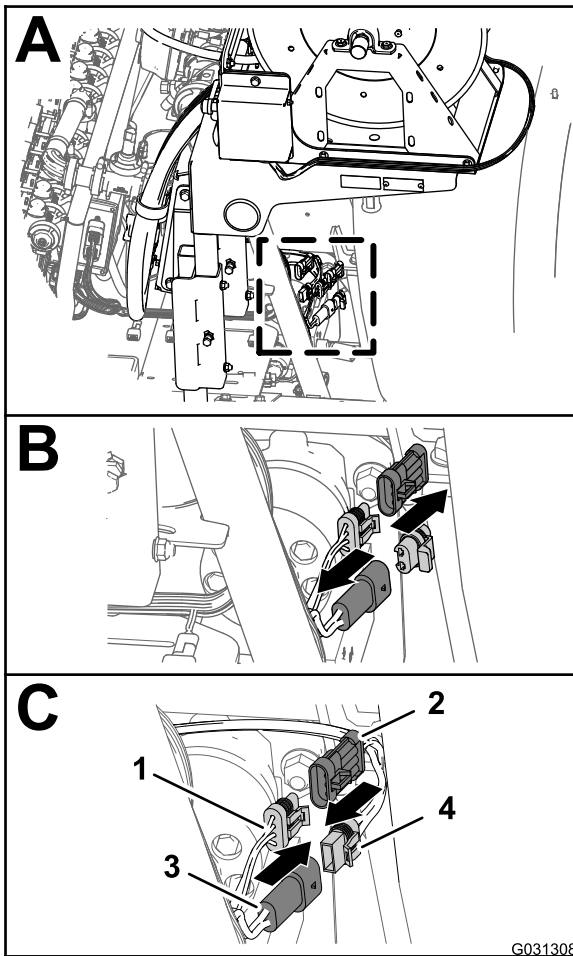

Figure 145
1. At the back of the machine, locate the wire harness for the electric hose-reel kit at the back of the sprayer tank (A of Figure 145).
2. Remove the plug from the 2 pin connector of the rear, main harness for the hose-reel power (B in Figure 145).
3. Connect the 2 socket connector of the harness for the electric-hose reel into the 2 pin connector of the rear, main harness (C in Figure 145).
4. Remove the cap from the 3-socket connector of the rear, main harness for the spray harness interconnect (B in Figure 145).
5. Connect the 3 pin connector of the harness for the electric-hose reel into the 3 pin socket of the rear, main harness (C in Figure 145).